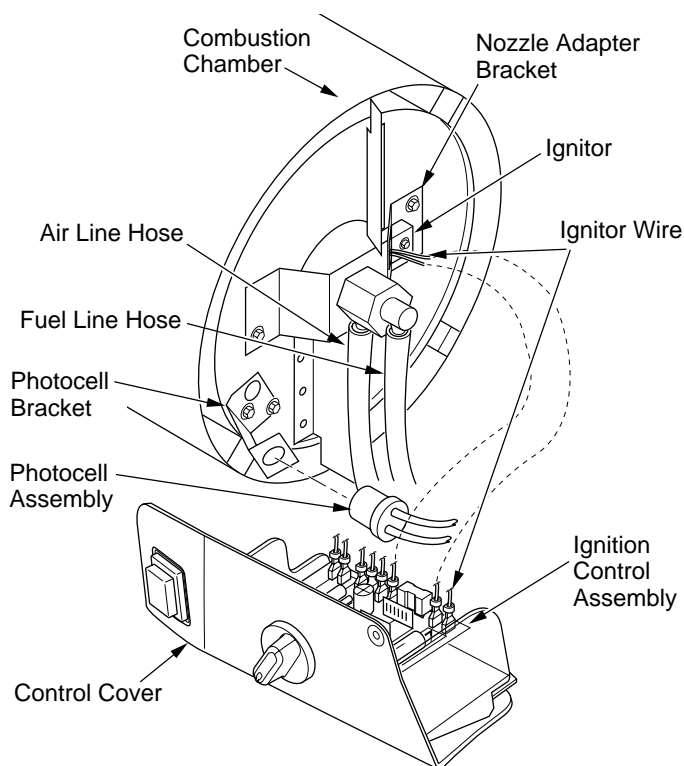

Figure 12 - Disconnecting Ignitor Wires from Ignition Control Assembly (125T, 170T Model Shown)
4. Disconnect ignitor wires from ignition control assembly (see Figure 12). Pull the ignitor wires up through the hole in the lower shell.
5. Disconnect fuel line hose and air line hose. Remove photocell from photocell bracket (see Figure 12).
11. Route the ignitor wires back down through the hole in the lower shell. Connect wires to the ignition control assembly (see Figure 12).